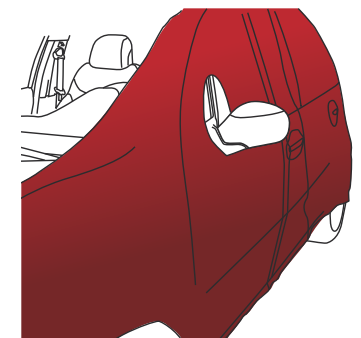

Figure 22
- › The film is now stretched over the entire surface area to be wrapped. Now you can apply the film (FIG. 22) according to the type of surface.